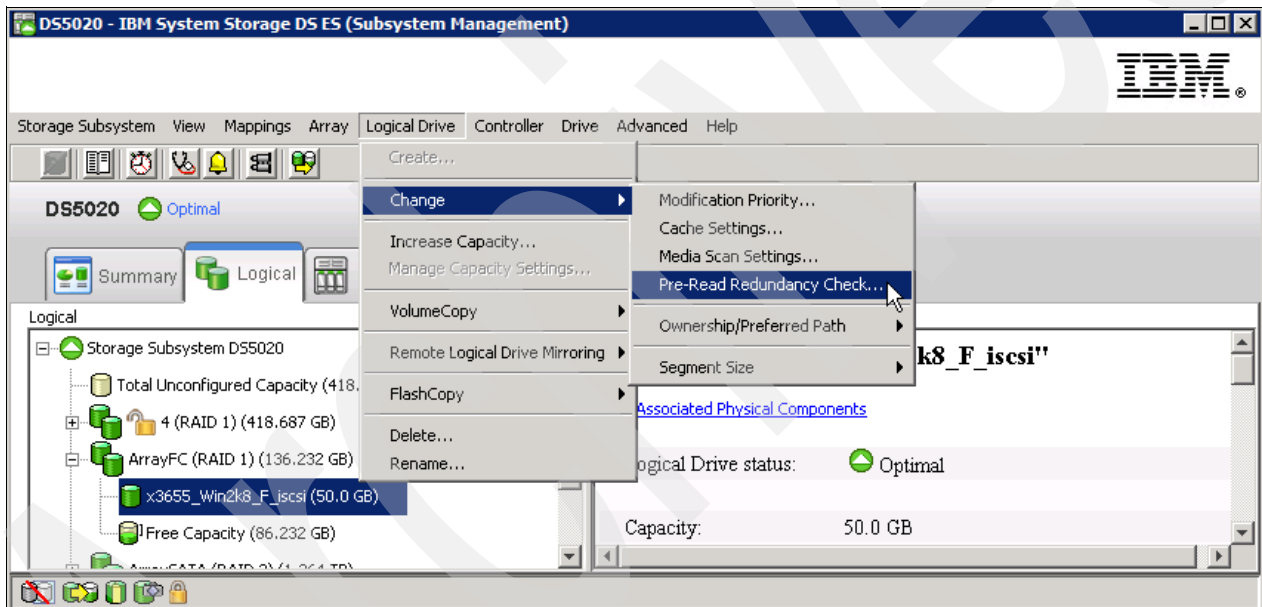

Figure 4-104 Pre-read redundancy check
2. Select **Logical Drive** → **Change** → **Pre-Read redundancy check**, as shown in Figure 4-104.